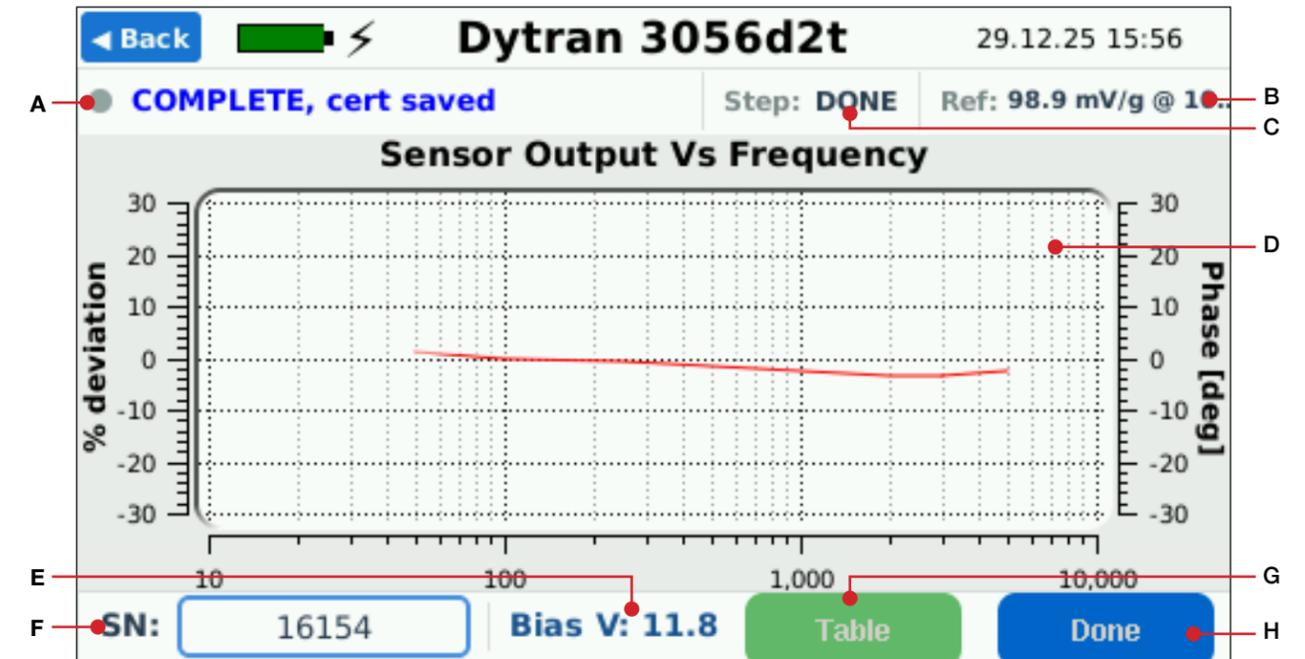

Figure 20
6. Select the **Table/Graph button** to toggle between graph view (*Figure 20*) and table view (*Figure 21*). Table view shows each of the test points for the test. When the test is in progress, the test point data will fill in, one row at a time. The test is complete when all data is filled in.